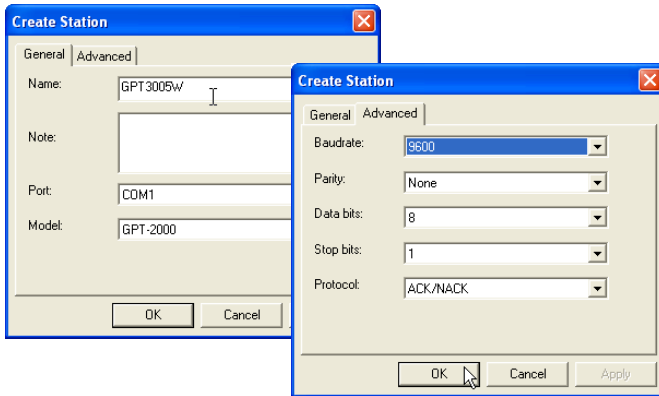

Figure 2-5. Enter New Total Station Device Information
3. On the General tab, enter and select the following information (Figure 2-5 on page 2-7):
receiver (Figure 2-5). Refer to the Sokkia receiver's documentation for details.
4. On the Advanced tab, select the baud rate, parity, data bits, stop bits, and protocol used for communication with the Total Station (Figure 2-5). Refer to the Total Station's documentation for details.